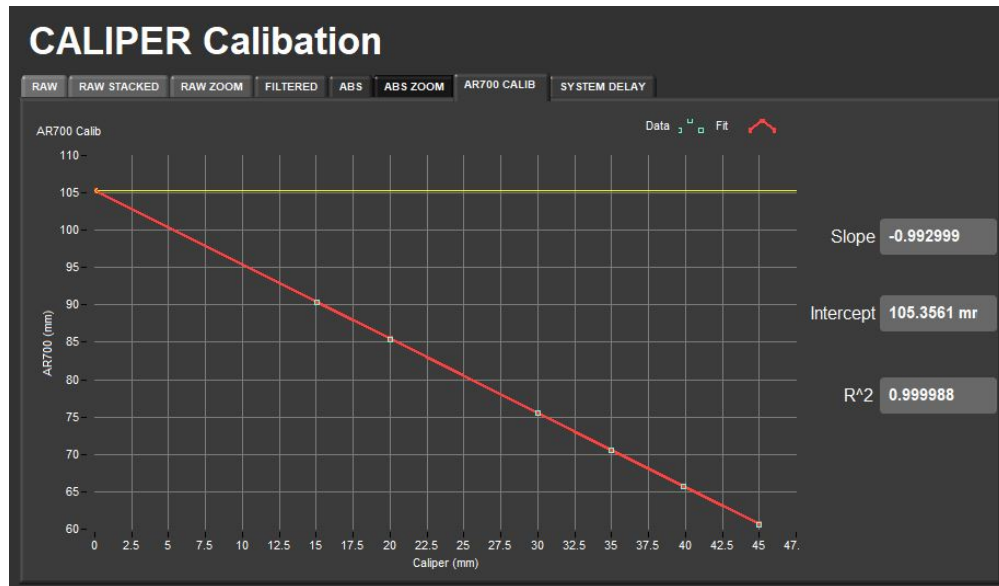
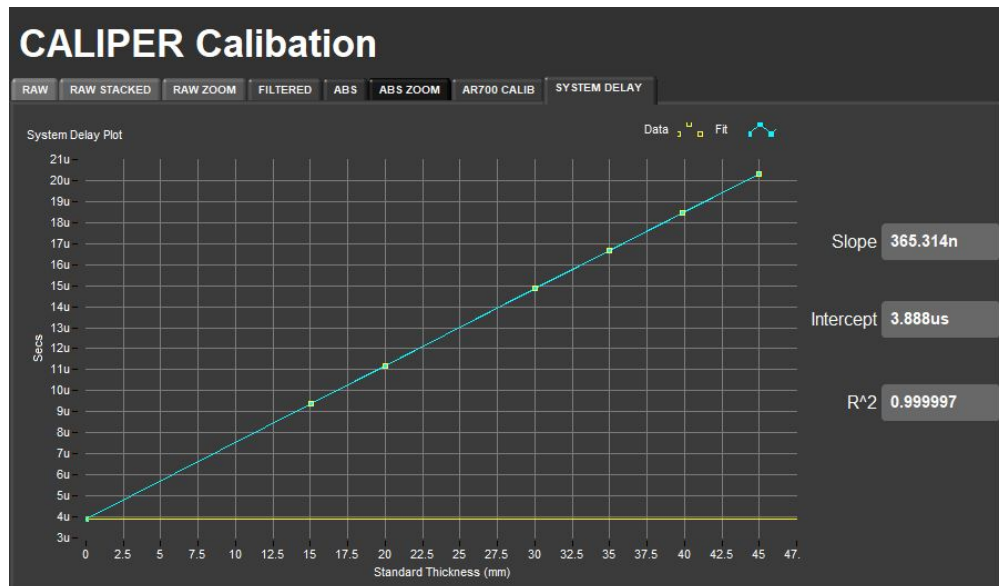

Figure 9. Laser (AR700) offset calculation.
Figure 10. System Delay regression line.
The button on the right-hand side (Figure 6, item 2) are selected if you want to use that value in the calibration. Remember you need at least two for calibration but use all 6. Keep in mind that the program is always re-calculating the calibration values (Figure 9 and Figure 10) and it is ok to select and unselect value to see the affect on the calibration values. The same with remeasuring just make sure you apply the correct time pick to the correct sample.
To calculate the laser offset, the zero contact position offset was determined for the transducer and a small slope correction values (Figure 9).
To calculate material velocity and the system delay value the pick time is measured during the calibration (Figure 10).